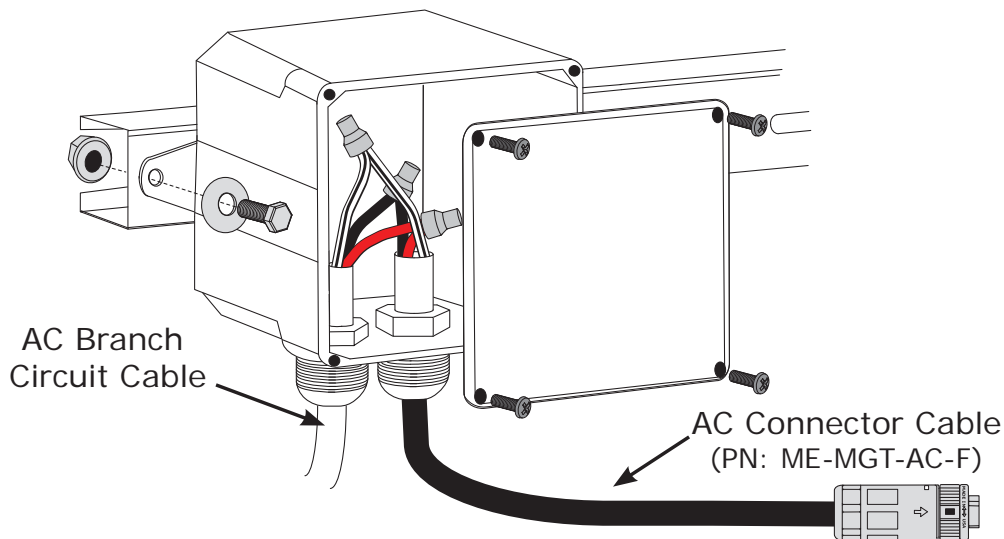

Figure 4, Attaching and Wiring the Junction Box
First, install and wire an AC branch circuit junction box (Figure 4).
1. Plug the **AC Connector cable's** female end (other end hardwired to junction box – Figure 4) into the male AC connector of the first MicroGT. Twist the connector's collar (until you hear a "click") to lock the two together.